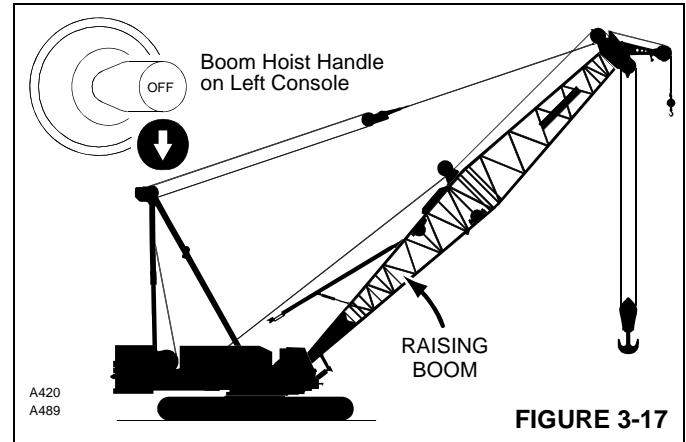
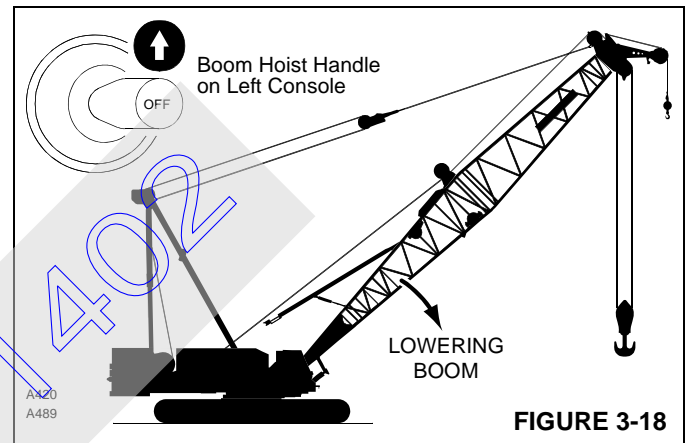

FIGURE 3-17
FIGURE 3-18
5. Move handle to REAR from off to RAISE boom or luffing jib (Figure 3-17); move handle to FRONT from off to LOWER boom or luffing jib (Figure 3-18).